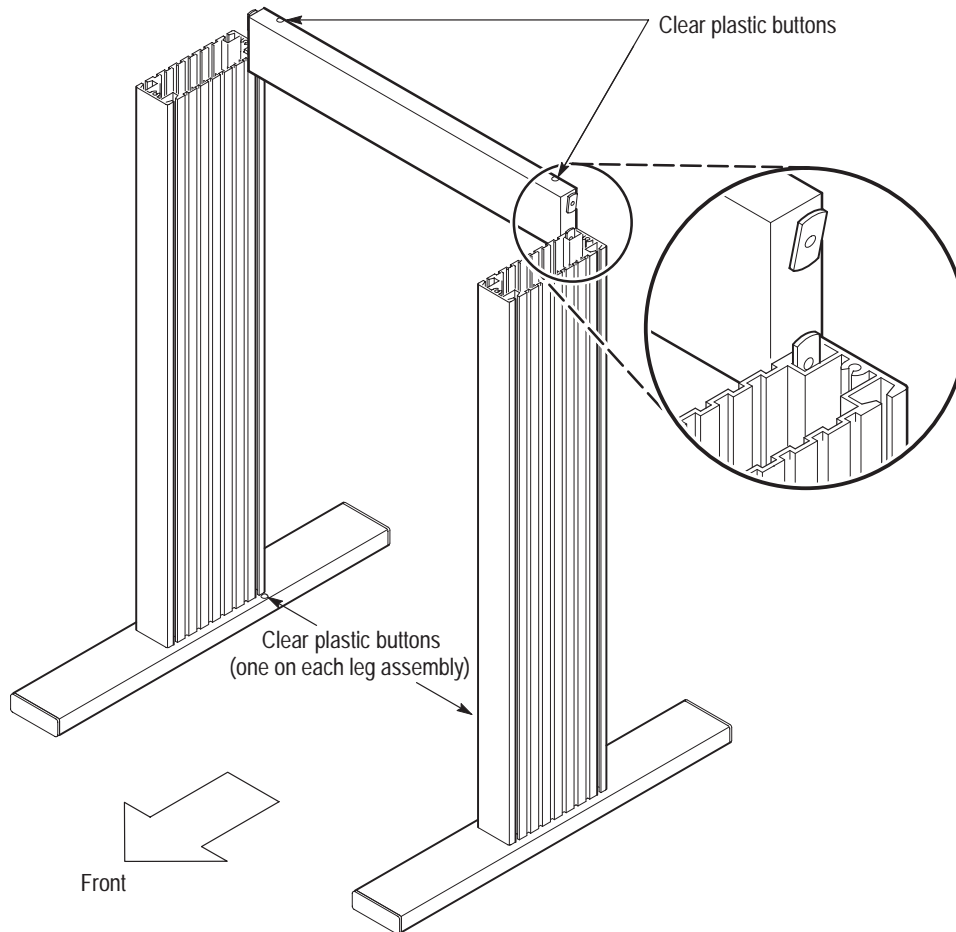

Figure 4: Aligning the Leg Assemblies and the Strut
2. On each leg assembly, observe that there is a small, clear, plastic button on the horizontal leg bar. This button is on the *inside* of the cart, *at the back*. Position the leg assemblies as shown in Figure 4. Leave a space between the leg assemblies about equal to the length of the strut.
3. Position the strut horizontally between the leg assemblies, as shown in Figure 4, with the open side of the strut to the back. Line up the weld nuts with the *back* groove in the leg assemblies.